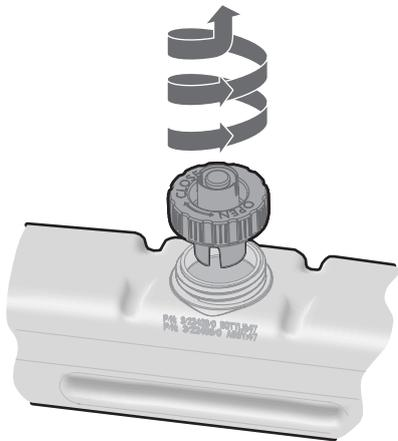

Fig.6
4. Place the water tank in sink and remove cap, Anti-clockwise to open. (See Fig.6)